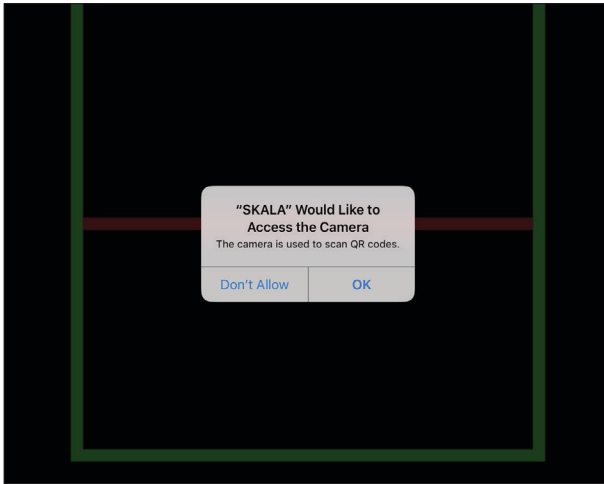

Figure 14 SKALA requests access to iPad camera
The iPad camera app will open, and a dialog will appear asking for permission to access the camera (Figure 14).
4. Select **OK** in the Camera app dialog window message to give SKALA access to the iPad's camera (Figure 14).